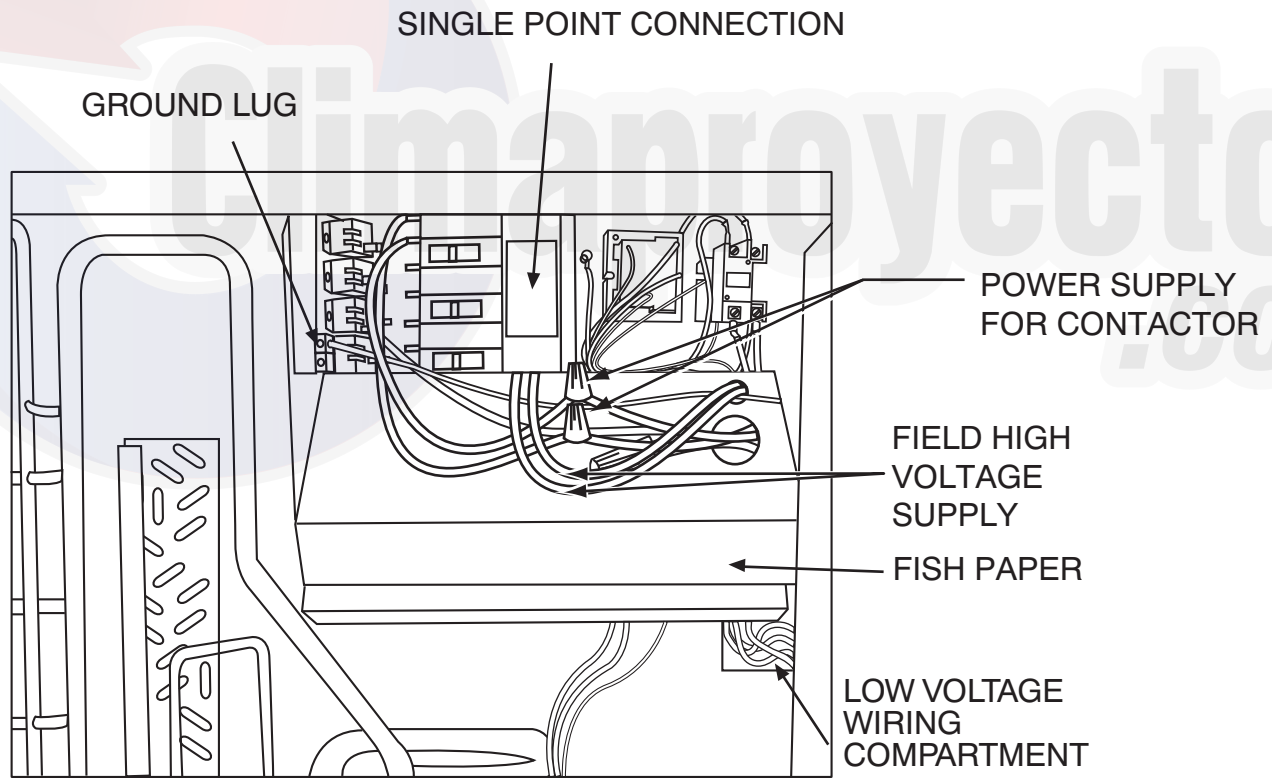

Fig. 8 – Unit Power Connection
6. Wire connectors (2)
7. Wire ties-6" (5)
8. Screws #10B (4)
9. Ground lug (1) (See Fig. 8)
10. Bolts 3/8-16 (3)
- Re-close flexible “fish paper” insulation cover; insure unit black and yellow power “pigtailed” from contactor are properly routed through insulation cover (See Fig. 8).